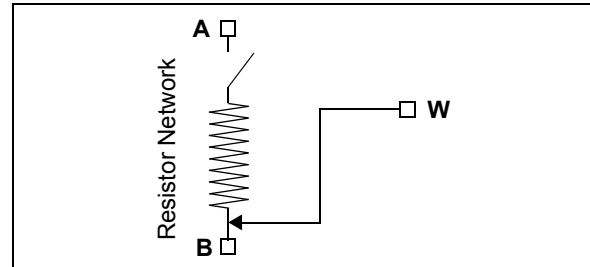

FIGURE 5-2: Resistor Network Shutdown State (RxHW = 0).
- The P0W, P1W, P2W and P3W terminals are simultaneously connect to the P0B, P1B, P2B and P3B terminals, respectively (see Figure 5-2)